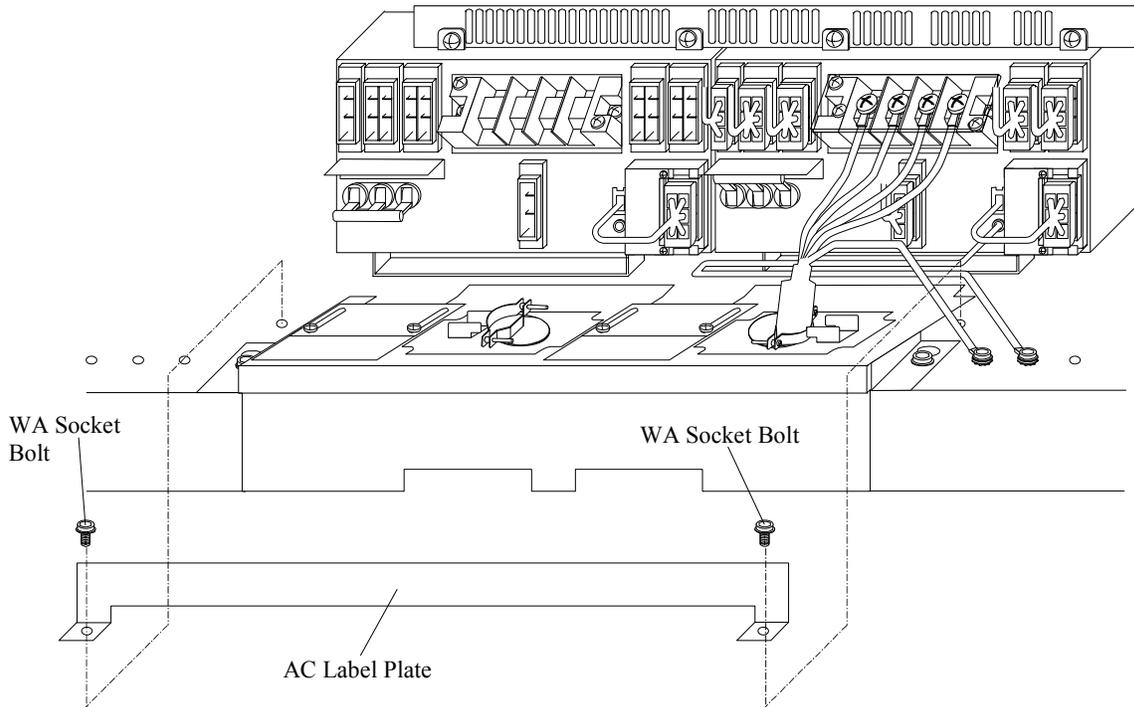

Fig. T18.1-3A Removal of AC Label Plate
- d. Attach the AC label plate and fasten the two WA socket bolts. (Refer to Fig. T18.1-3A.)